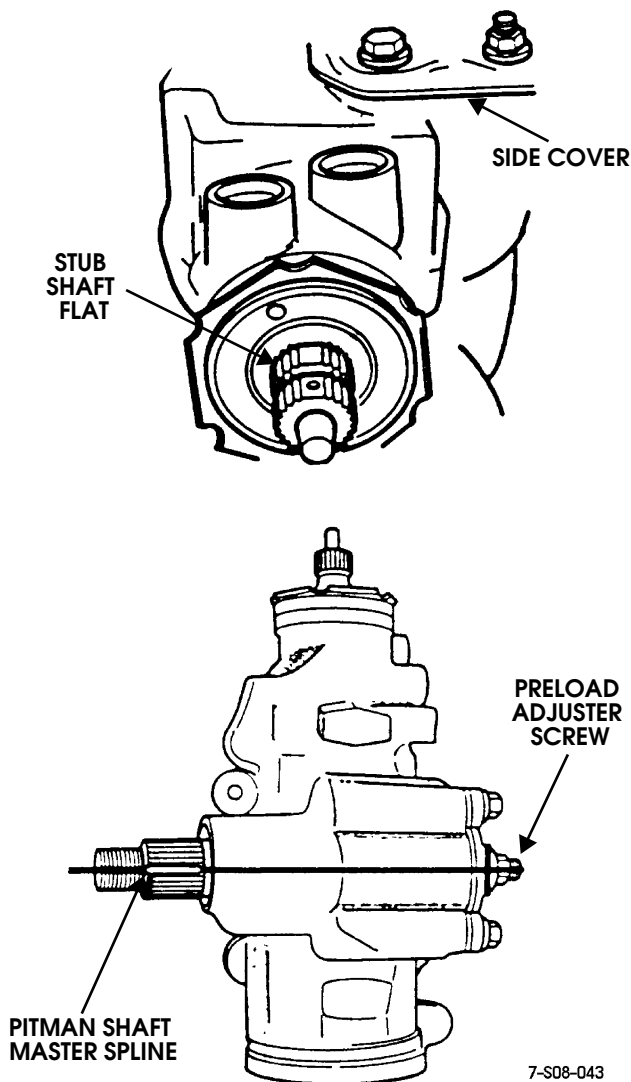

Figure 8-70: Verifying That Gear Is Centered
4. Verify that gear is centered. Flat on stub shaft should face upward and be parallel with side cover. In addition, master spline on pitman shaft should be parallel with adjuster screw (Figure 8-70). If gear is not centered, number of turns counted in step 3 may be incorrect, or pitman shaft sector teeth are not centered in rack piston. Make necessary corrections before proceeding.